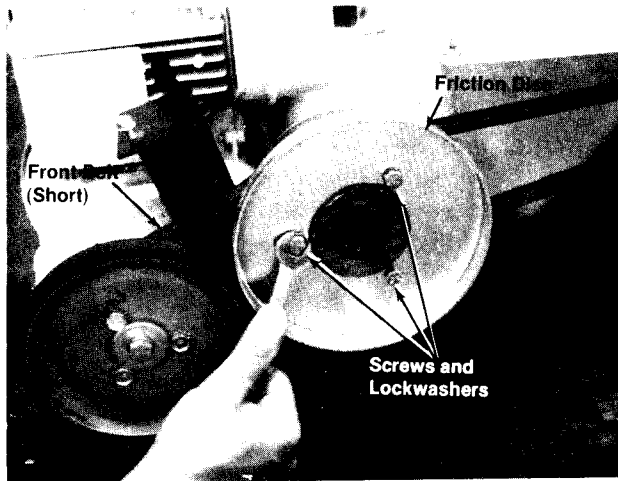

FIGURE 37.
2. To remove the front belt (short) pull gear shift lever back to Reverse (R) position and hold. With a 7/16" wrench remove three screws and lockwashers holding the friction disc. See figure 37.